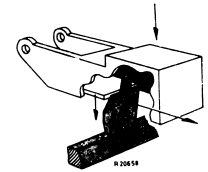

Fig 17
- The control keys are locked by locking bracket 62. This bracket is mounted under the keys, fig. 17. When the recording, playback, winding or rewinding keys are depressed, the cam hooks onto the lock bracket 62 behind the metal frame of the control key.